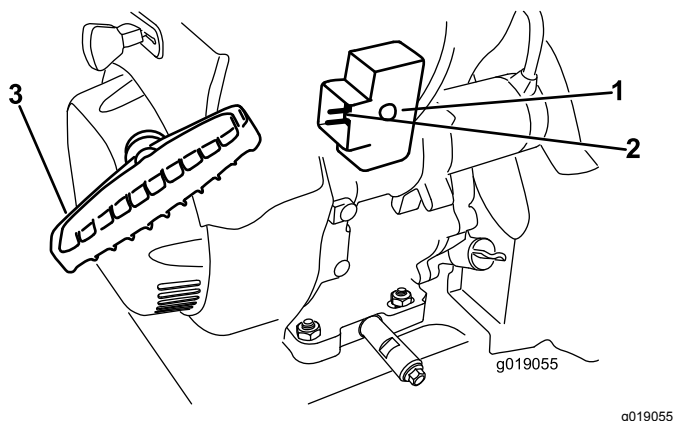

Figure 25
7. Start the machine by pulling the recoil starter or pressing the electric-starter button (Figure 25).